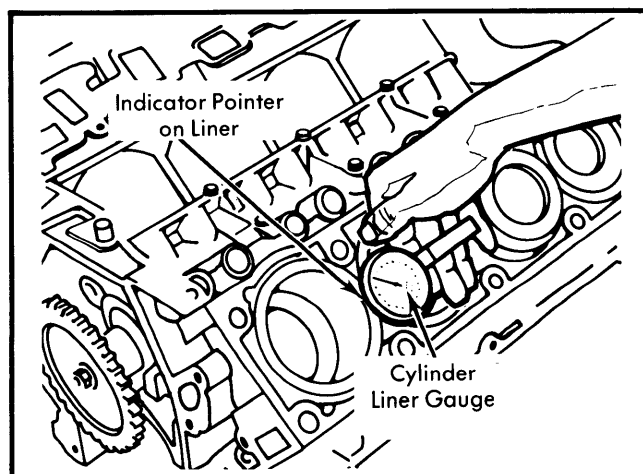

Fig. 7 Measuring Liner-to-Liner Height
6) To determine liner-to-liner height, install adjacent liner in block in its original position and orientation without "O" ring installed. Using cylinder liner gauge, place indicator pointer on upper surface of adjacent liner and hold second liner in position. See Fig. 7.